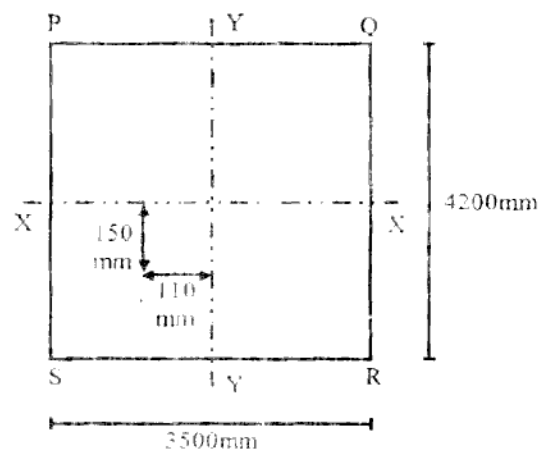

Figure 9
9. A masonry pier of 3500mm x 4200mm supports a vertical load of 120kN as shown in fig. 9. Find stresses developed at each corner of the pier. 16